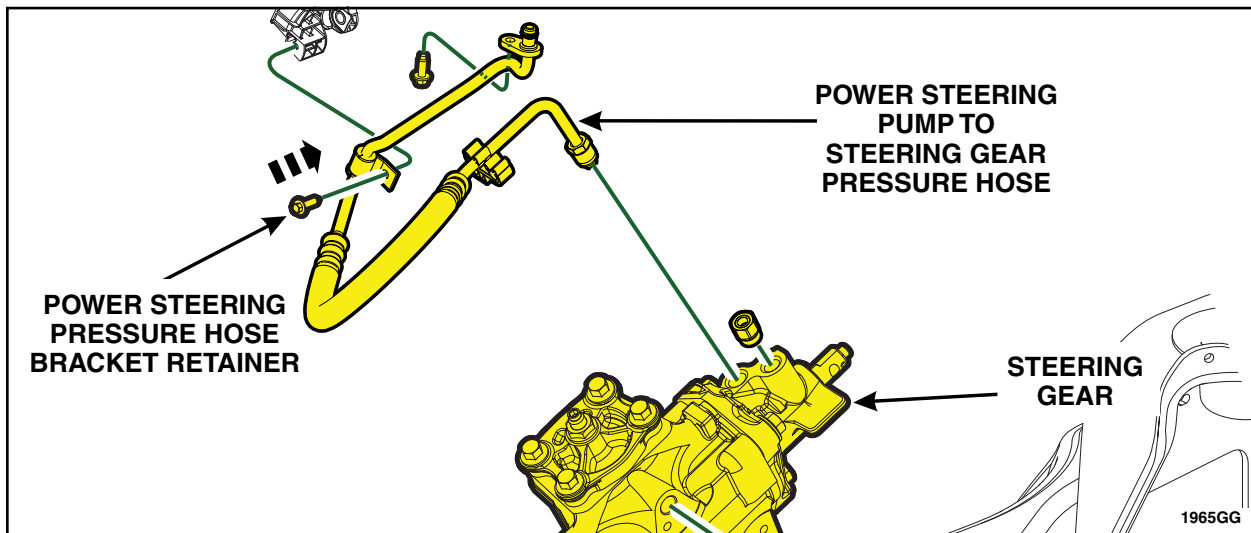

FIGURE 39
9. If equipped, install the power steering pressure hose bracket retainer. See Figure 39.